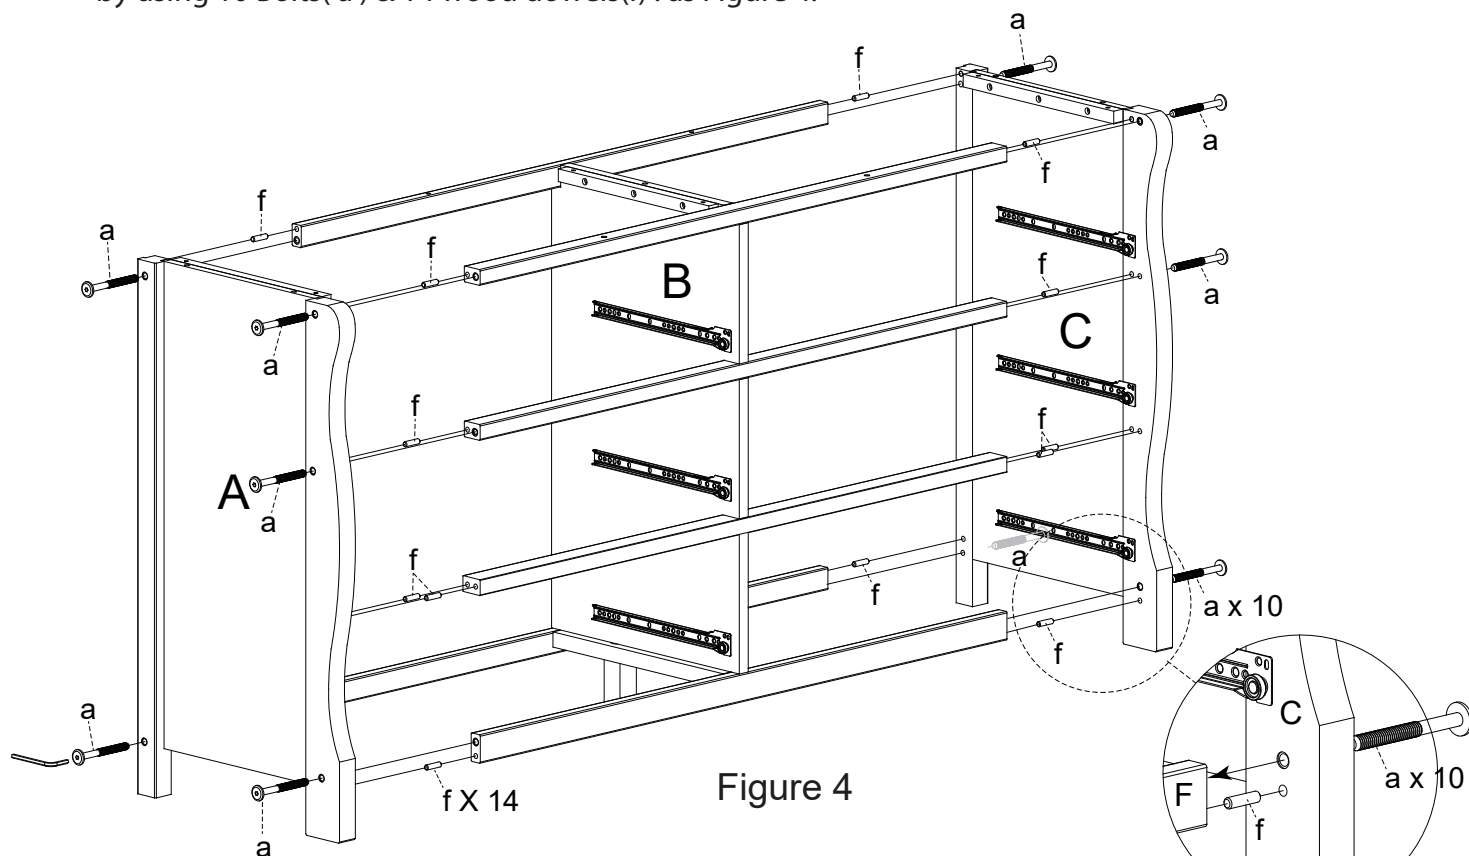

Figure 4
- 4** Attach left side panel (A) and right side panel (C) to Front Top rail (D) & Front Middle rail (E) & Front bottom rail (F) & Rear Top rail (G) and Rear bottom Rail (H) by using 10 Bolts ( a ) & 14 wood dowels(f) . as Figure 4.
4. Using Drawer Knob Screw ( f ), install one (1) Knob ( j ) on Drawer. *Figure 4.*
④